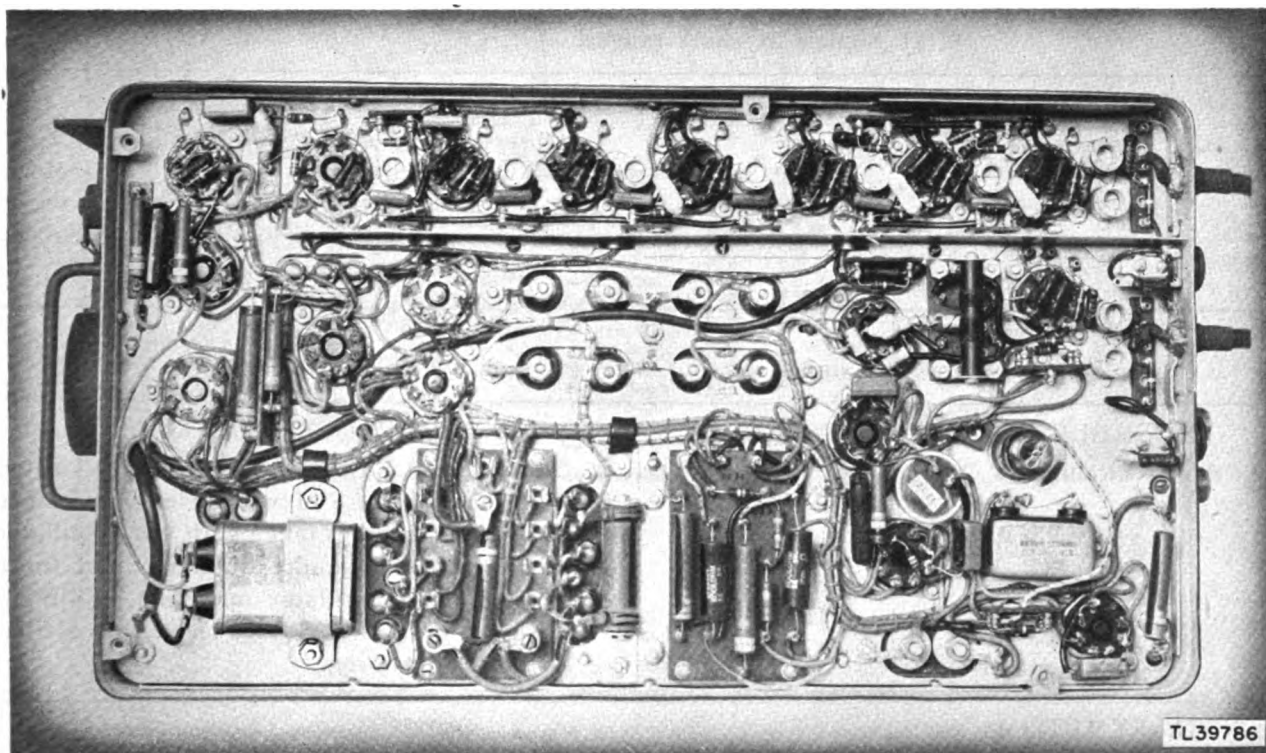

Figure 186. Radio Receiver BC-1223-A, under side of chassis.
- m. Figure 186, Radio Receiver BC-1223-A, under side of chassis.
c. *STAGE LOCALIZATION.* Once localized to a particular circuit in the receiver system, troubles may be localized to a defective stage by systematic voltage and resistance measurements and waveform examination. However, since the under side of the receiver (fig. 186) is not easily accessible, it is expedient to check all other possible sources of trouble before removing the receiver chassis. When trouble is definitely localized to the receiver, the receiver may be removed from the spinner assembly as outlined in paragraph 98a. It will be necessary to improvise test connections in order to supply power to the receiver at the test bench. Figure 187 is a diagram